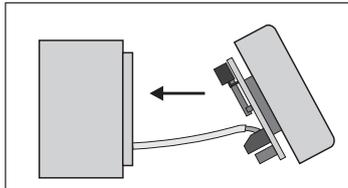

Figure 4
- 7 **Carefully** slide the front cover and circuit board diagonally into the mounting box, top section first (see *Figure 4*).